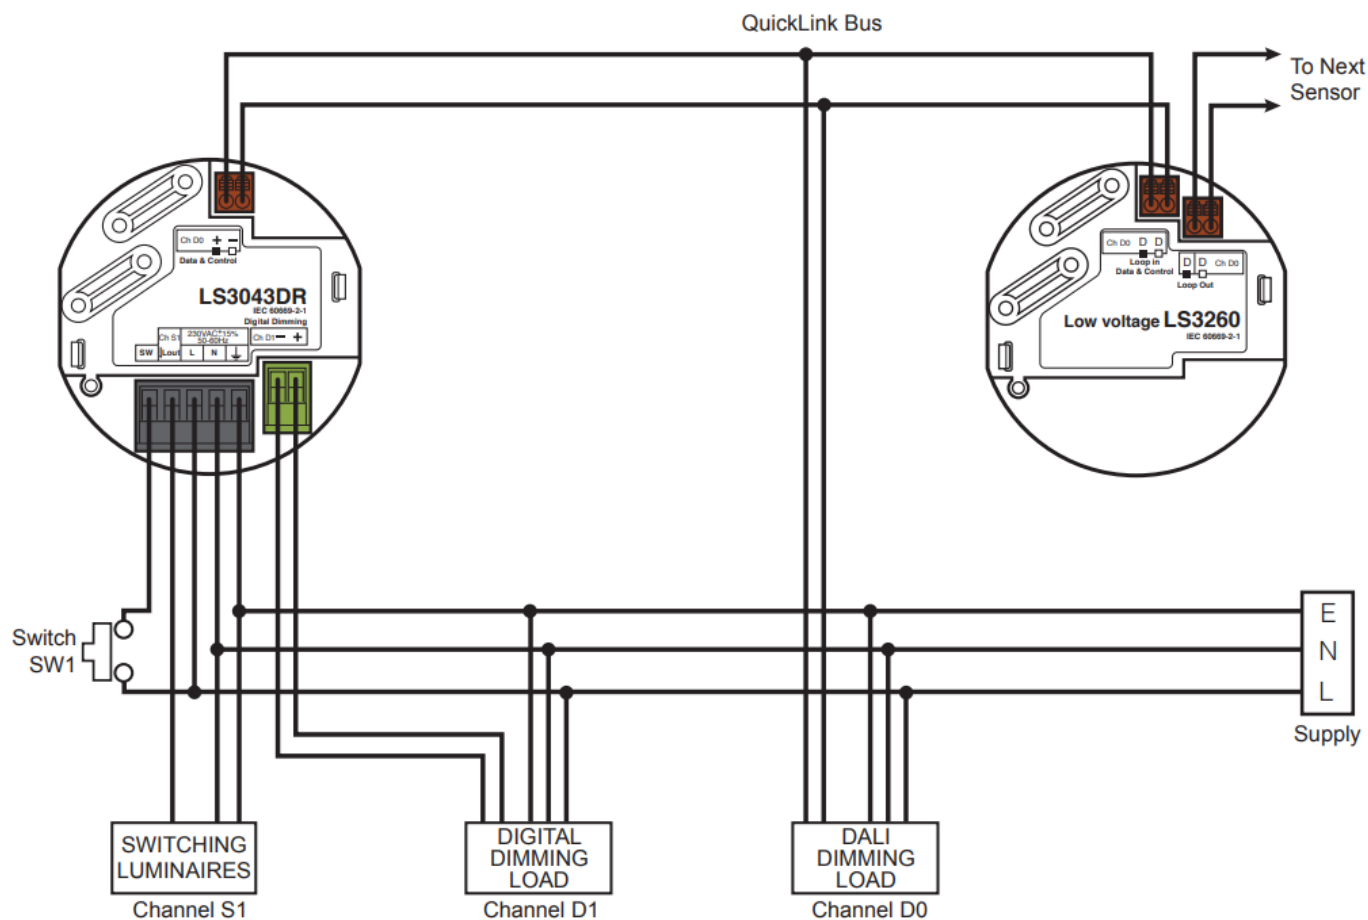

fig 3
- 7 Adding an Extra Low Voltage Sensor Using QuickLink Bus \(fig 3\)
Adding an Extra Low Voltage Sensor Using QuickLink Bus (fig 3)